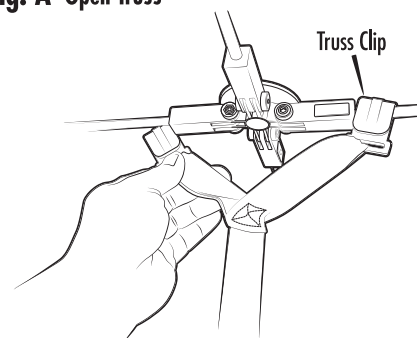

Fig. A2 Cross Truss
- 1) Locate the center **Center Ceiling Truss Clips** (with short orange webbing). (Fig. A2)